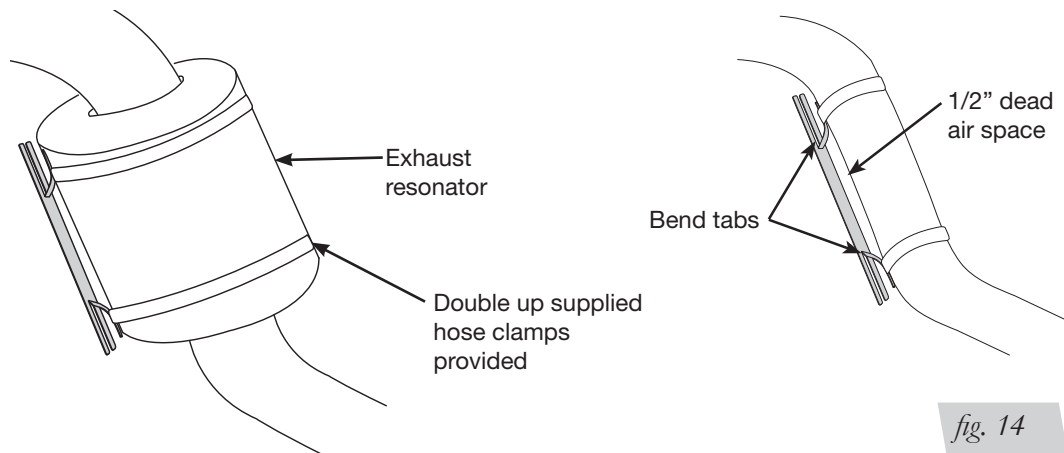

fig. 14
- Bend tabs to provide a dead air space between exhaust pipe and heat shield. (Fig. 14) Attach the heat shield to the exhaust pipe using the clamps. Bend the heat shield for maximum clearance to the air spring.
Some vehicles have large resonators in this area; it will be necessary to double up on the clamps to fit these models (Fig. 14).